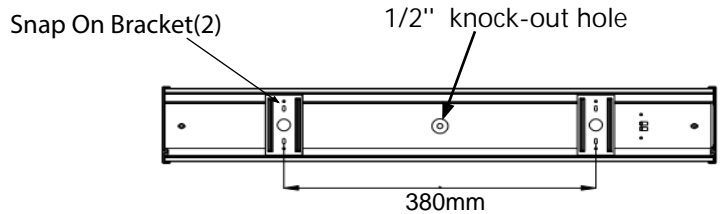
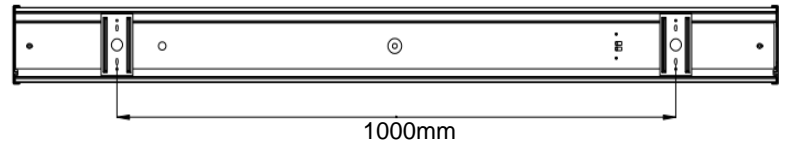

Fig.2 LSD 2FT
Fig.3 LSD 4FT
1. Use appropriate mounting hardware (not supplied) to secure the **Snap On Brackets** to mounting surface. Refer to recommended **Snap On Bracket** in **Fig. 2** for LSD 2FT and in **Fig3.** for LSD 4FT.